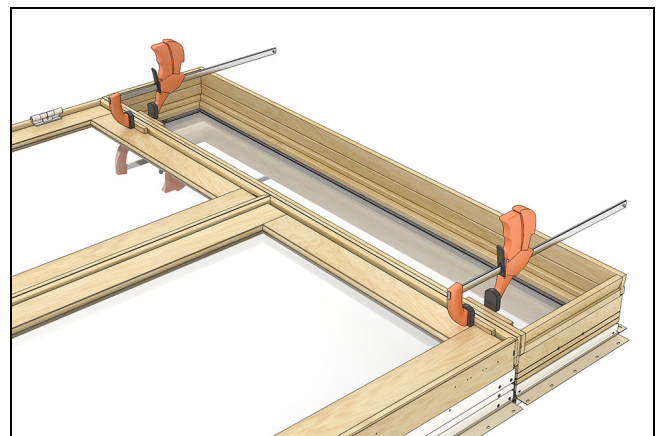

Figure 56
41. Lightly clamp the frames together on interior (use wood blocks to protect interior) near each end to hold the mulled units in place. See Figure 56. *NOTE: 2 wide 1 high vertical mull clamping shown. Clamp units together according to the desired configuration.*